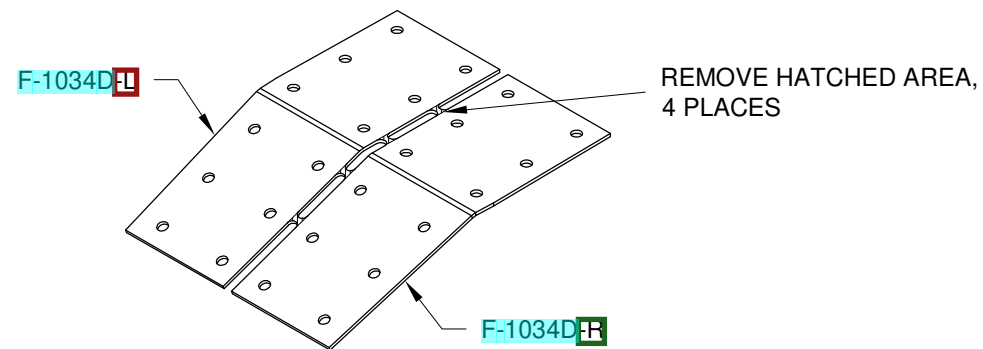

FIGURE 1: BREAKING APART THE GUSSETS
Step 1: Cut the F-1034D-L and F-1034D-R Gussets apart from one another as shown in Figure 1.